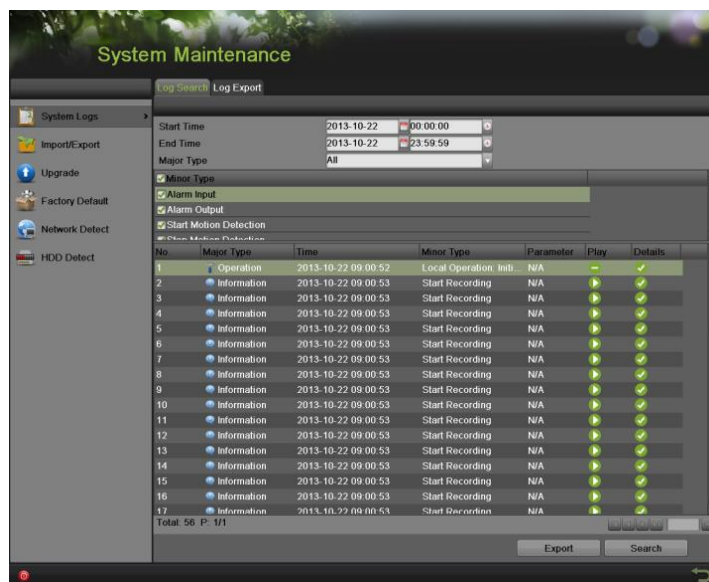

Figure 217 Log Search Results
5. Click the Search button. The search results will be displayed in a list (**Figure 217**). Click  to page up and down.